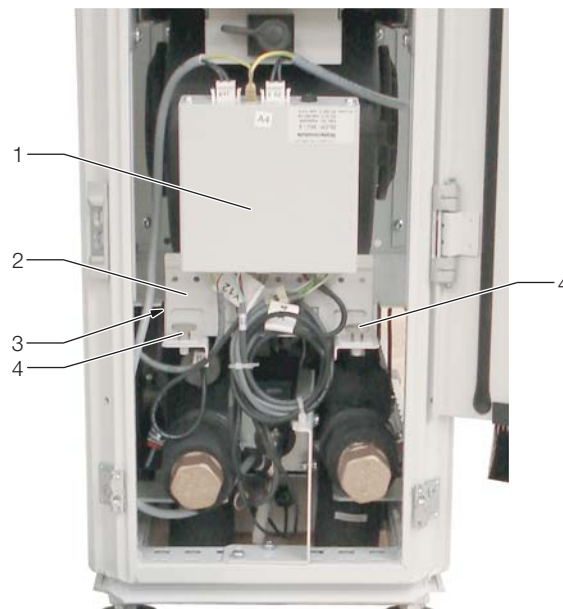

Fig. 28: Water module control unit
- Loosen both thumb screws (Fig. 28, item 4) from the control unit holder (Fig. 28, item 3) and completely unscrew them.
- Remove the control unit together with the holder (Fig. 28, item 1 and item 3) from the mounting plate (Fig. 28, item 2) and set it down outside the Liquid Cooling Package Plus.